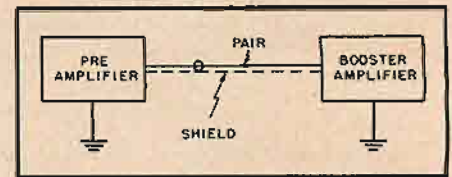

Fig. 2. Ground loop resulting from grounding shield to chassis at both ends of pair.
The construction of the Super Horn is such that panels 1, 2, 4, and 5 act as an exponential horn following a true exponential within one per cent. (See Figs. 2, and 3). The throat of the horn (T) is formed by the top edge of panel 2, and panels 4 and 5. The mouth (M) is defined by the bottom edge of panel 3, the bottom edge of panel 1, and edges of panels 4 and 5.  $V_c$  acts as a coupling chamber to keep high frequencies out of the horn.  $X_1$  and  $X_2$  indicate the distance over which area of the horn doubles. The area at Q is double that of the throat and the area of the mouth is double that of Q. Once a flare-rate is chosen, the rest of the dimensions of the cabinet may be determined geometrically.
resulting when, for example, the shield of a cable pair is grounded at both ends. It will be noted from Fig. 2 that multiple grounding forms a coil of one turn, in which a voltage may be induced by any nearby a.c. field. Since the pair shield is part of the loop or turn, noise may thereby be induced in the conductors.